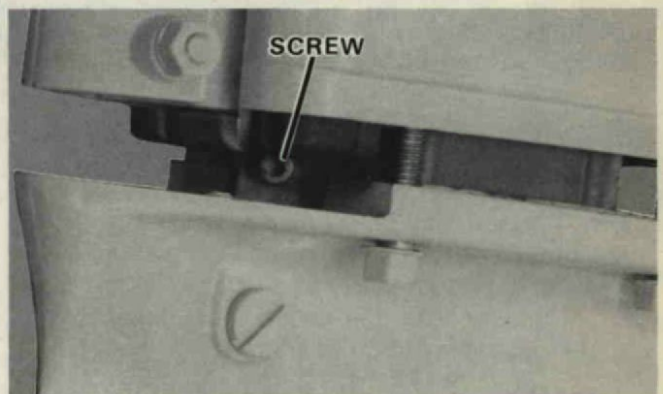

Figure 44. Removing Gear Shift Rod Screw.
- Pull lower unit down and remove screw joining gear shift rods. Figure 44.